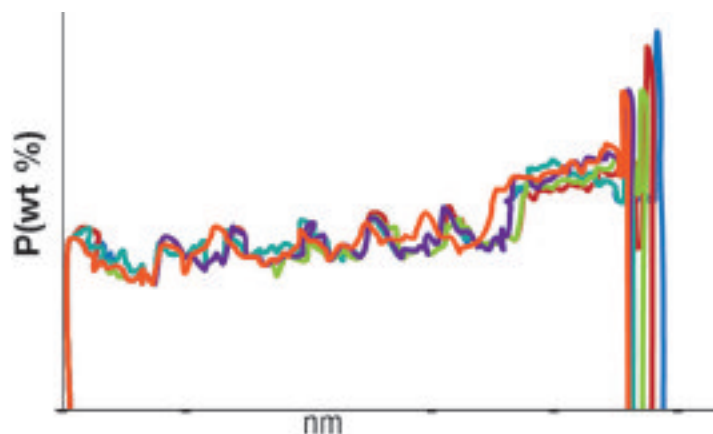

FIGURE 3. Dynamic SIMS suggests dopant concentration profile is wavy when total carrier gas flow falls under 5500sccm.
Based on DSIMS collected, it was found that the dopant concentration profile becomes unstable if the total carrier gas flow is less than 5500sccm. Phosphorous (P) concentration profile shows fluctuation all throughout the film at a total carrier gas flow less than 5500sccm while phosphorous percent profile was steady at total carrier gas at 5500sccm or higher (**FIGURE 3**).